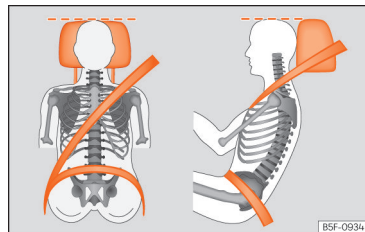

Fig. 20 Correct belt web and headrest positions
your head and under no circumstances below eye level. Keep the back of your neck as close as possible to the headrest >>> **Fig. 20.**
- Adjust the seat lengthwise so that you can fully step on the pedals with your knees slightly bent and there is a distance between the knee area and the instrument panel of at least 10 cm (4 inches) >>> **Fig. 20.**